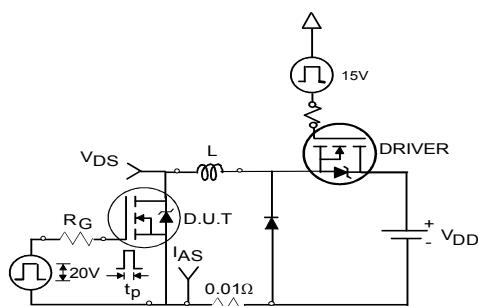

Fig 22a. Unclamped Inductive Test Circuit
3. Equation below based on circuit and waveforms shown in Figures 22a,22b.